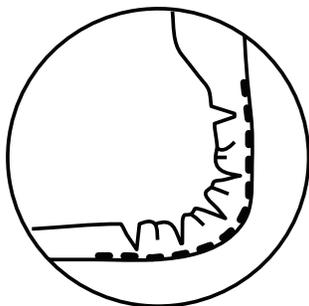

Figure 10
- Trim and notch seam allowance, if necessary, to reduce puckers (Figure 10).